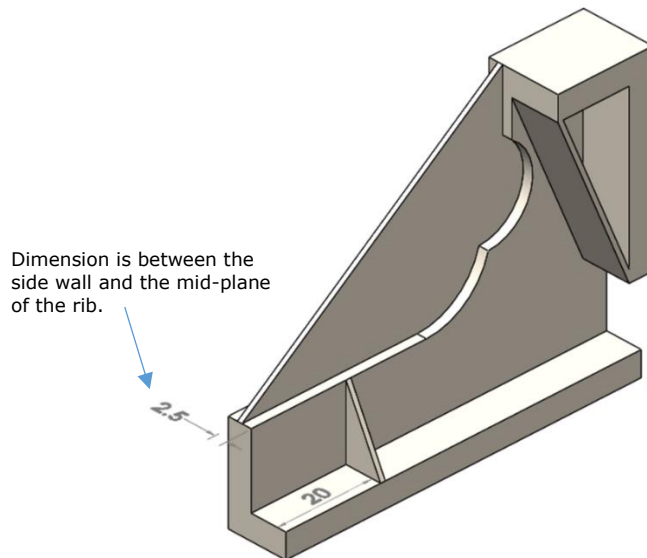

Figure 3: Original “Slide_Lock_Housing” part with no fillet and added ribs.
- 4.) Roll back your “Slide_Lock_Housing” part (Lab-1B Assignment) to its original configuration (suppressed mirrored features and fillets). Again, without any assistance from the TA try to add three ribs to the part as shown in Fig. 3 – dimensions are in mm and the ribs are all 1-mm thick **[35 pts.]**.